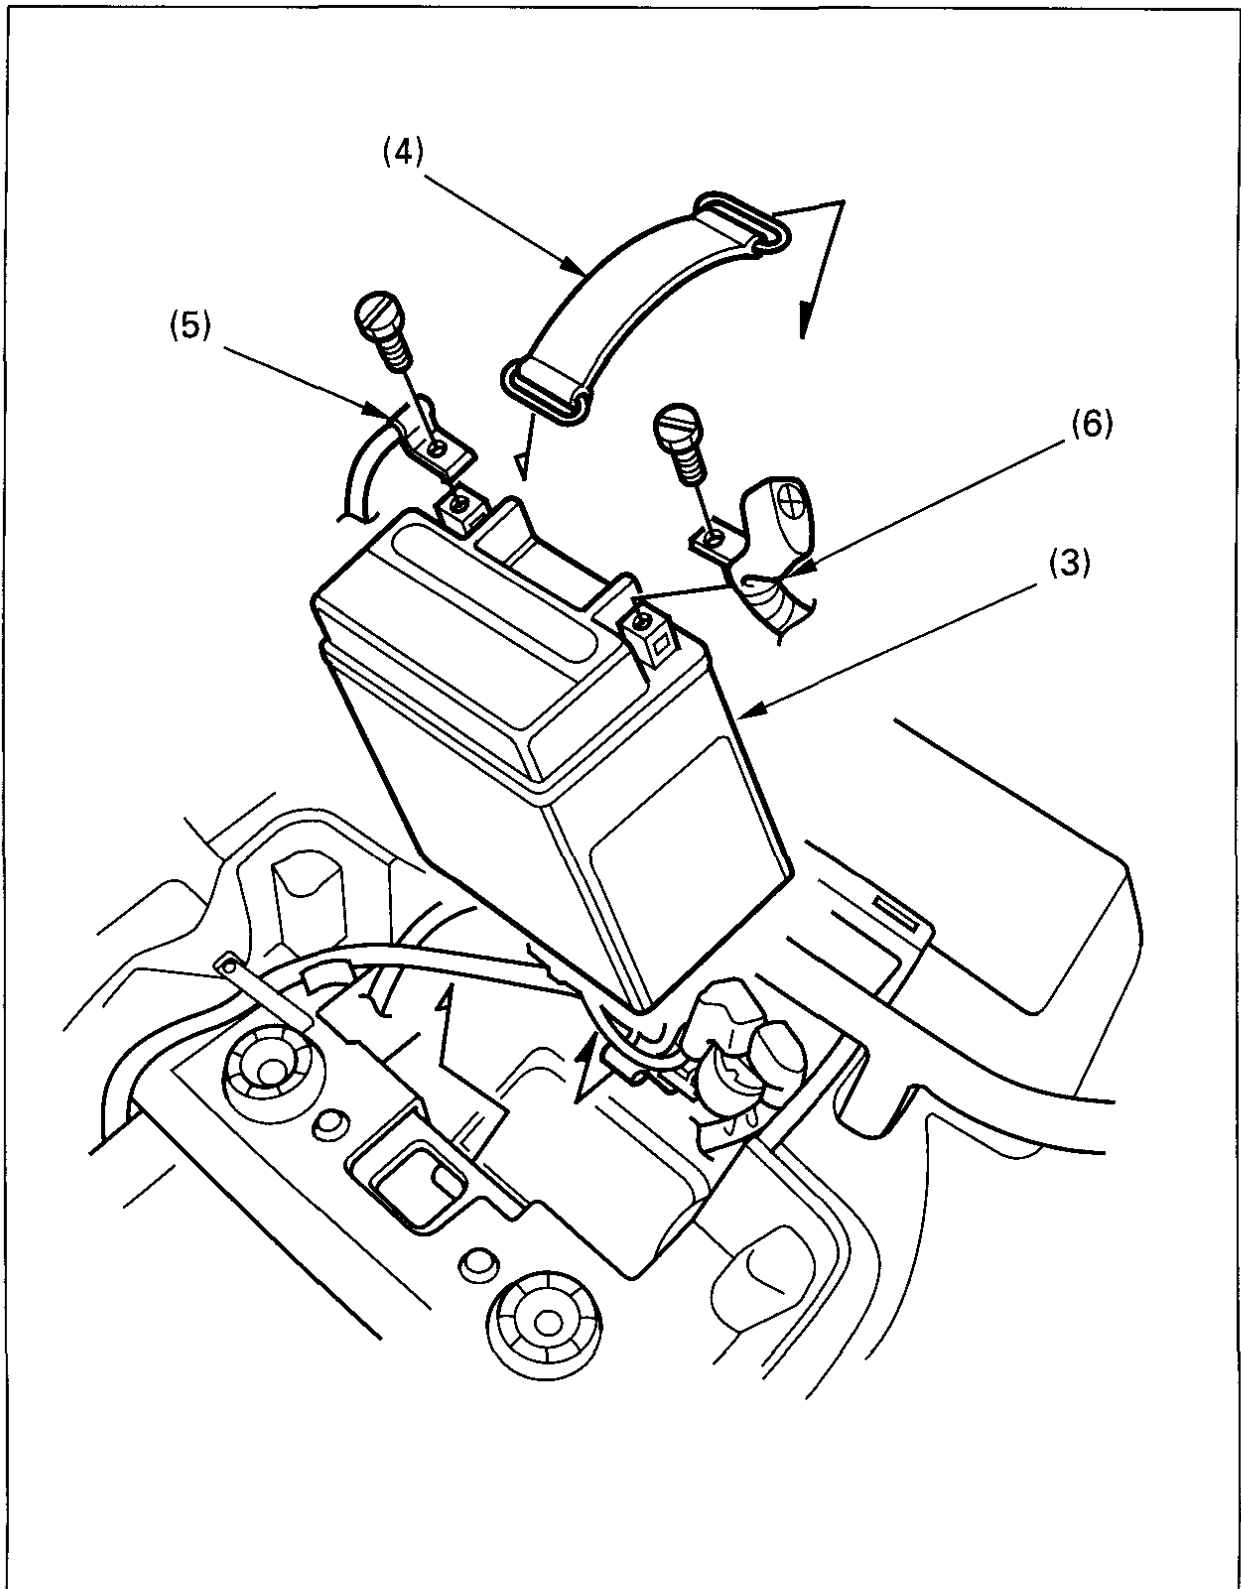

Fig. 4-19
4. Release the rings and remove the rubber band (4). (Fig.4-19)
5. Disconnect the negative (-) terminal lead (5) from the battery (3) first, then disconnect the positive (+) terminal lead (6).